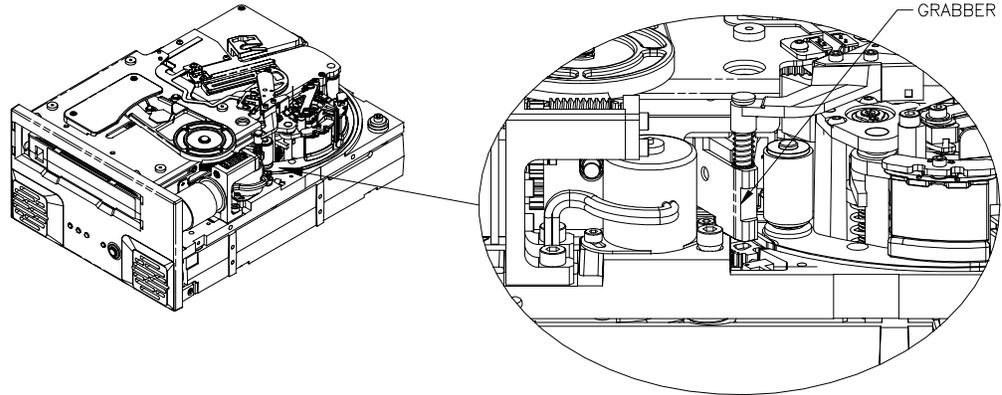

Figure 16. Diagram of underside of Viper 200 showing tape grabber near cartridge
9. Carefully push the grabber in toward the cartridge, as shown in Figure 16.